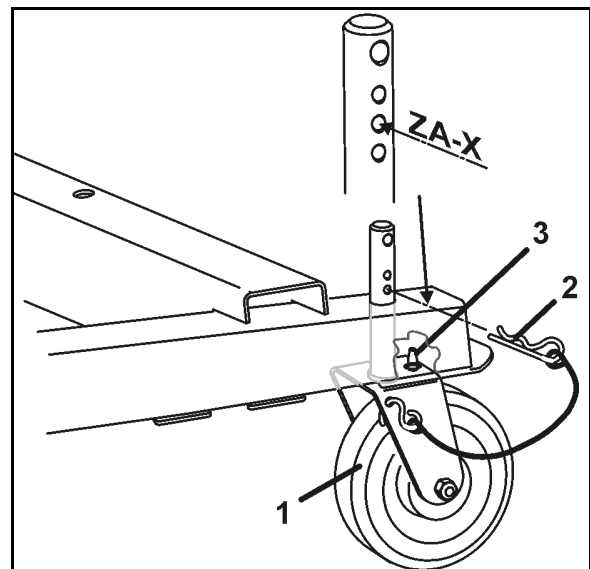

Fig. 45
6. Rigid rollers (Fig. 45/1) at rear
- o Mount and secure with safety splint (Fig. 45/2) in the central bore
When installing the rigid rollers ensure that the pin (Fig. 45/3) goes through the bore of the frame, thus holding the rollers in longitudinal direction.